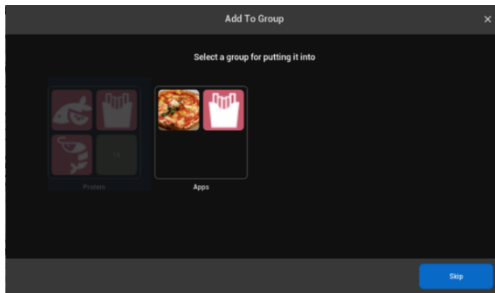

Figure 62 - Add to Group
- Click the desired group to copy the recipe to **Figure 62**
- Click on desired group, move recipe to **Figure 62 - Add to Group**